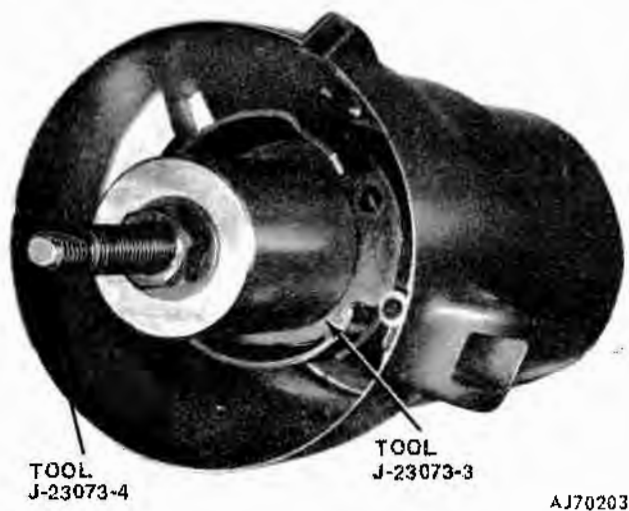
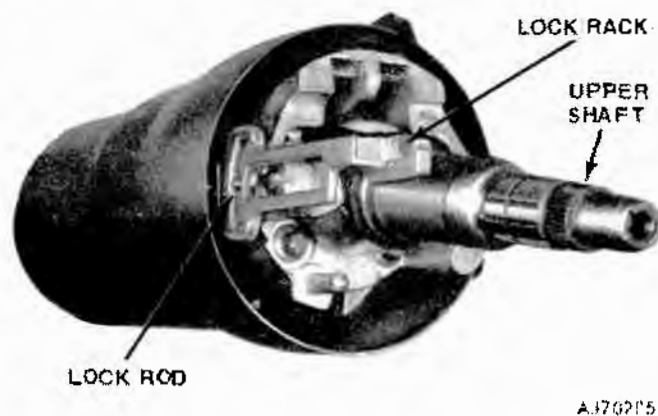
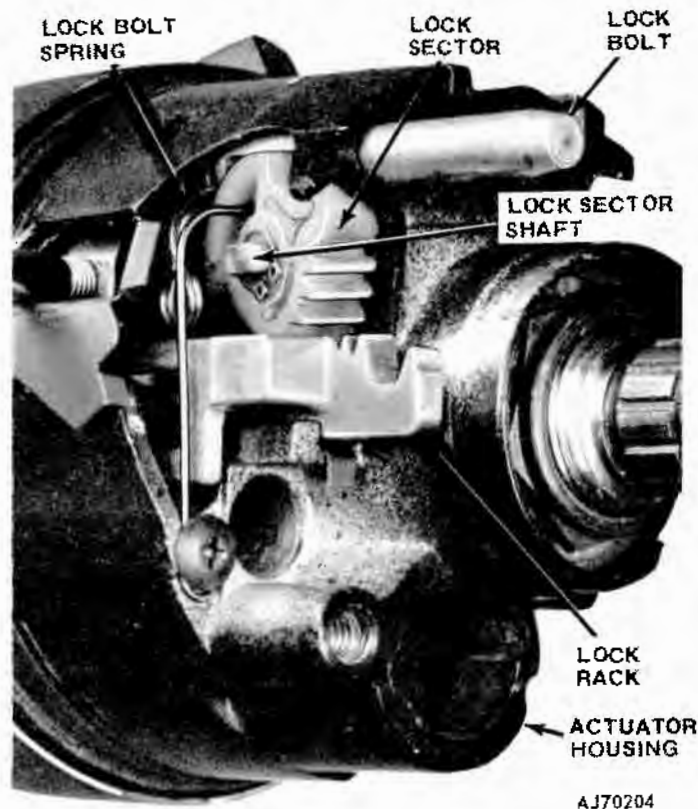

Fig. 11-29 Pulling Shift Tube Into Bowl
Fig. 11-30 Lock Rack and Remote Rod Position
Fig. 11-31 Position of Lock Sector Tension Spring
(6) Place Receiver Tool J-23073-3 and -4 over puller stud and tighten puller out to pull tube into bowl (fig. 11-29).
(7) Install shift tube thrust washer and shift tube retainer snap ring.
(8) Install lower bearing (with metal face toward retainer), retainer, and snap ring.
(9) Install pin and shift gate on upper support and install upper support aligning V-notch in support with notch in column (located at 9 o'clock position).
(10) Install four retaining screws.
(11) Assemble steering shaft and slide into column.
(12) Place bearings (14 balls each) in upper housing (if removed).
(13) Install tilt handle.
(14) Insert ignition switch remote rod between shift bowl and mast jacket and into guide channel in left side of upper support.
(15) Place lock rack on rod (fig. 11-30).
(16) Carefully guide upper housing over steering shaft and lock rack, aligning lock shoes with teeth in upper support. Lift tilt lever to allow engagement of lock shoes into upper support.
(17) Align upper housing and upper support pivot pin holes and drive pivot pins into position using a fiber mallet or brass drift.
(18) Install lock shoes, lock shoe springs, tilt bumpers, and lockpin in upper housing.
(19) Install lock sector and sector shaft. Large tooth on sector must engage large slot in lock rack. Install sector shaft retaining snap ring.
(20) Hook lock sector tension spring on lockpin, engage sector, and install spring retaining screw (fig. 11-31).
(21) Place upper housing in full up position and install tilt spring and seat. Depress spring retainer approximately 3/16 inch into housing. Rotate retainer approximately 1/8 turn clockwise to secure spring.
(22) Place upper housing cover into position and install three retaining screws.
(23) Install key warning buzzer switch and tension spring. Buzzer switch brass contact should point upwards, toward shift indicator.
(24) Guide shift quadrant light wire up through upper housing and then down between shift bowl and mast jacket.
(25) Install shift quadrant mounting bracket and attach light socket.
(26) Install tilt release handle.
(27) Hook base of shift quadrant over tabs on left side of retainer and place in position.
(28) Install shift pointer into bowl and engage with quadrant.
(29) Install quadrant retainer clip with flat side of clip facing down.
(30) Install directional signal switch assembly. Guide wire harness between cover and mast jacket and carefully align switch assembly.